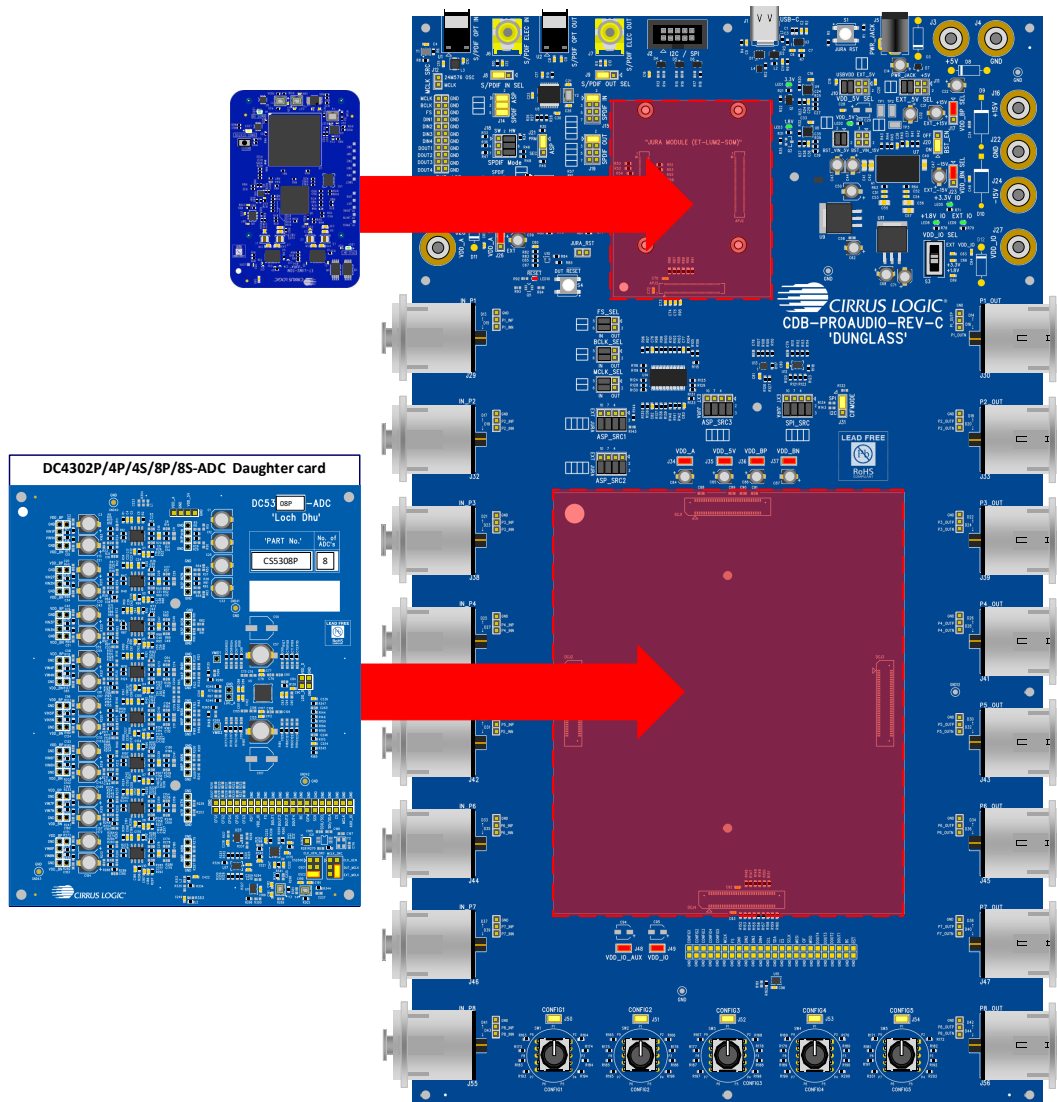

Figure 4: How to Connect DC5302P/P/4S/8P/8S-ADC onto the Dunglass System
- Connect the hardware as shown in Figure 4.